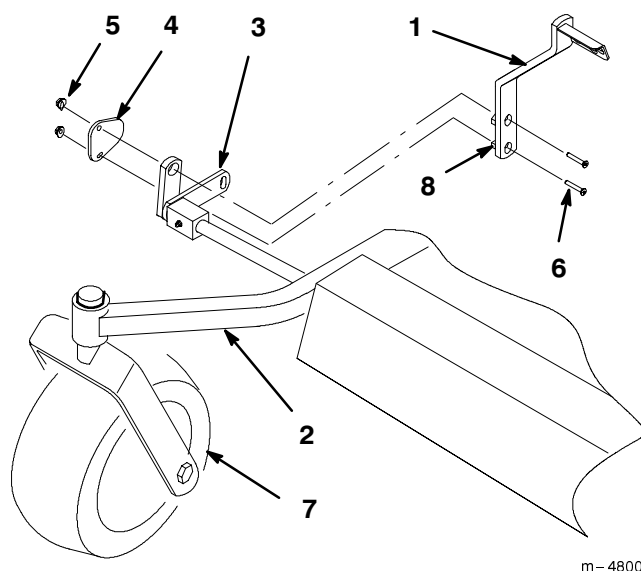

Figure 11
1. Place deck lift lever between mower frame and lift arm. Ensure that the deck lift arm is between both welded bars on lift arm (Fig. 11).
2. Place the strap, with the narrow end towards the rear of the machine, on the outside of deck lift arm (Fig. 11).
3. Install screws and nuts as shown in figure 11.